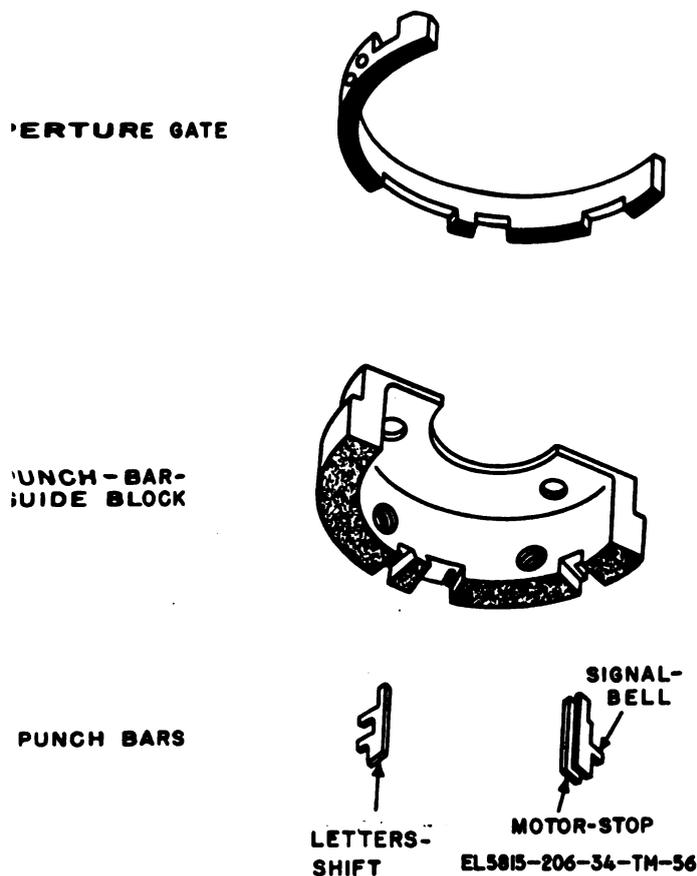

Figure 2-56. Punch-bar-guide block assembly, exploded view.
(b) The function-selecting arm stops at a point adjacent to a notch in the punch-bar-guide block (fig. 2-56). When stopped at this point, carriage-feeding (para 2-22) is prevented and the carriage remains motionless when the line-feed operation occurs.
a. *Selection of Signal-Bell Operation.* When the letter S code group is received and the transfer operation occurs, the first and third code rings are set to the marking position and the second, fourth, and fifth code rings are set to the spacing position. The code rings form a groove in line with the S stop bar, which stops rotation of the square-shaft stop arm. When the square-shaft is stopped in this position, the type-selecting arm is in line with the connecting bar which is geared to the S type bar, and the function-selecting arm (fig. 2-27 and 2-30) is in line with the signal-bell punch bar in the punch-bar-guide block (fig. 2-56).
a. Selection of Motor-Stop Operation. When the transfer operation occurs after the letter H code group is received, the third and fifth code rings are set to the marking (clockwise) position and the first, second, and fourth code rings are set to the spacing (counterclockwise) position (para 2-21). The code rings form a groove in line with the H stop bar. The H stop bar moves into the groove to halt rotation of the square-shaft stop arm. When the stop arm is halted at this point, the type-selecting arm is in line with the connecting bar that is geared to the H type bar, and the function-selecting arm (fig. 2-27 and 2-30), is in line with the motor-stop punch bar in the punch-bar-guide block (fig. 2-56 and 2-57).